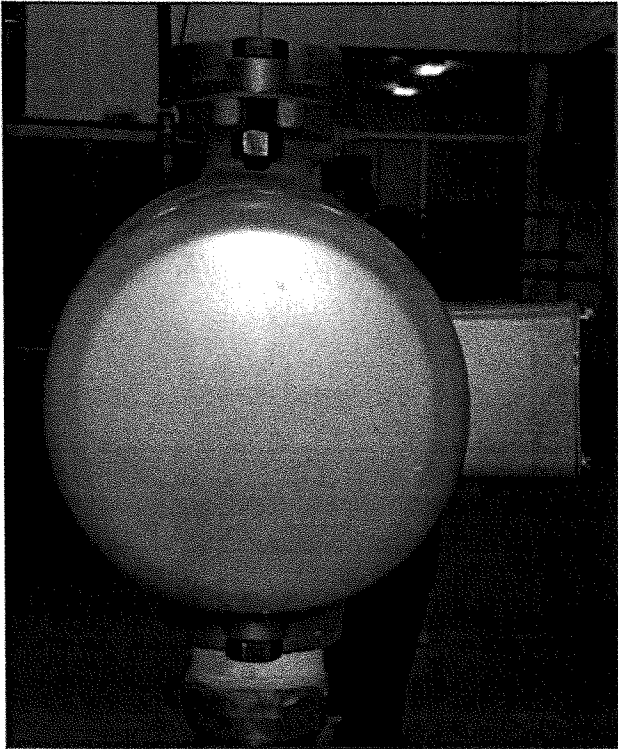
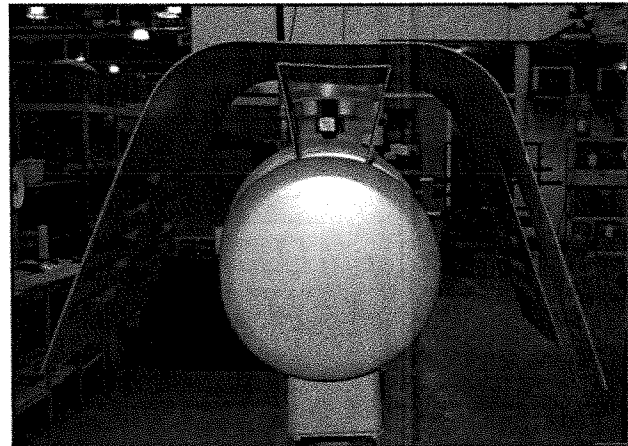

Fig. 21: Remove the pump body
Fig. 24: Place the cover on the pump
2. Remove the pump body then rotate it so that the electrical box is pointing downward, ensuring not to damage the seal. See Fig. 21, 22 and 23.
3. Insert and tighten all eight (8) wrench bolts, securing the pump body in place.
4. You will now be able to install the pump cover. See Fig. 24 and 25.